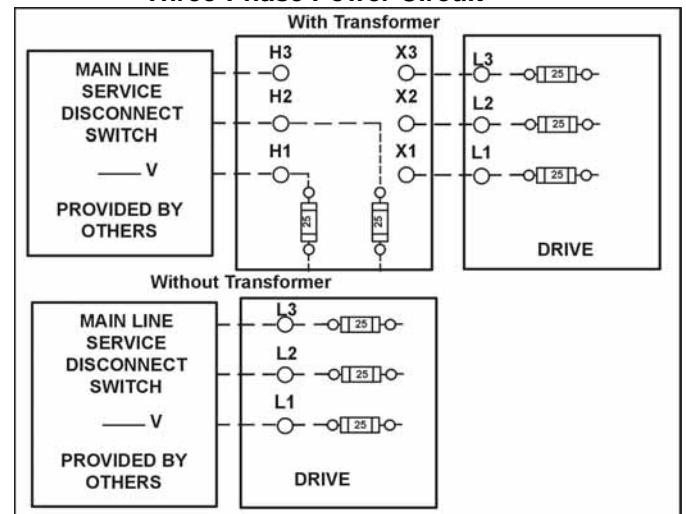

Figure 3-3
- 3) The 3-phase mainline power circuit is common to all drive types. The power connects to the primary side of an Isolation, Step UP or Step Down power transformer. The secondary side will be wired to the fuse block in the drive side of the controller. [See Figure 3-3.]